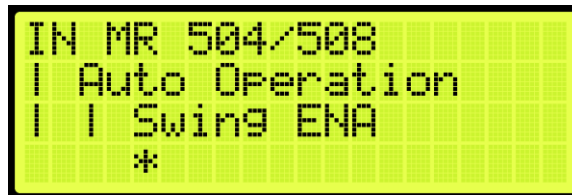

Figure 474: Input Menu – Enable Swing
8. Scroll and select Enable Swing (See Figure 474)